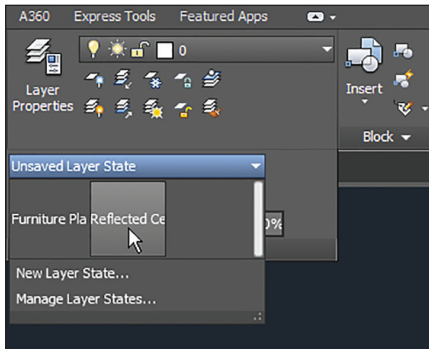

FIGURE 6.18 Accessing saved layer states from the drop-down in the Layers panel
7. Open the Layer State drop-down menu and select Reflected Ceiling Plan (see Figure 6.18). All the layer states associated with the Reflected Ceiling Plan are immediately toggled.